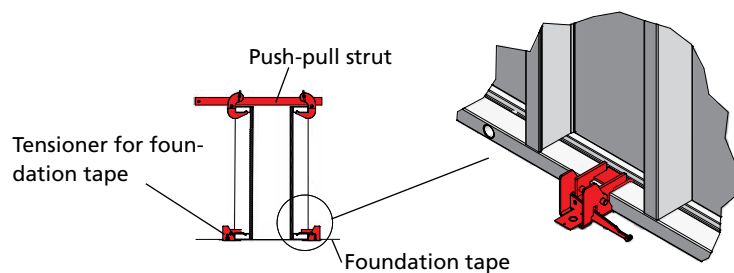

Fig. 45.3
- by a push-pull strut that firmly connects the opposite panels up to a wall or foundation thickness of 60 cm (Fig. 45.3).